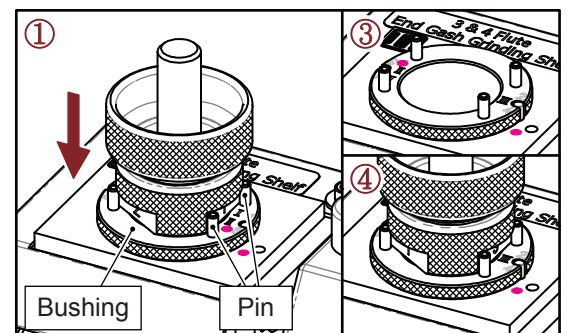

Fig. 10-2
2. 3 Flute End Gash Grinding (II) (Fig. 10-2)
- ① Insert the Chuck set into the bushing on Shelf (II), align Slot No.1 with the two pins where marked as No.(I·II), gently push the Chuck set until the grinding noise stops.
- ② Take the Chuck set out and turn it to grind the Slot No.2 in the same way.
- ③ Take the Chuck set out and turn the bushing to No.(III), align No.(III) with the pin on the shelf, then insert it to the end.
- ④ Insert the Chuck set into the bushing, align Slot No.3 with the two pins where marked as No.(III), gently push the Chuck set until the grinding noise stops.